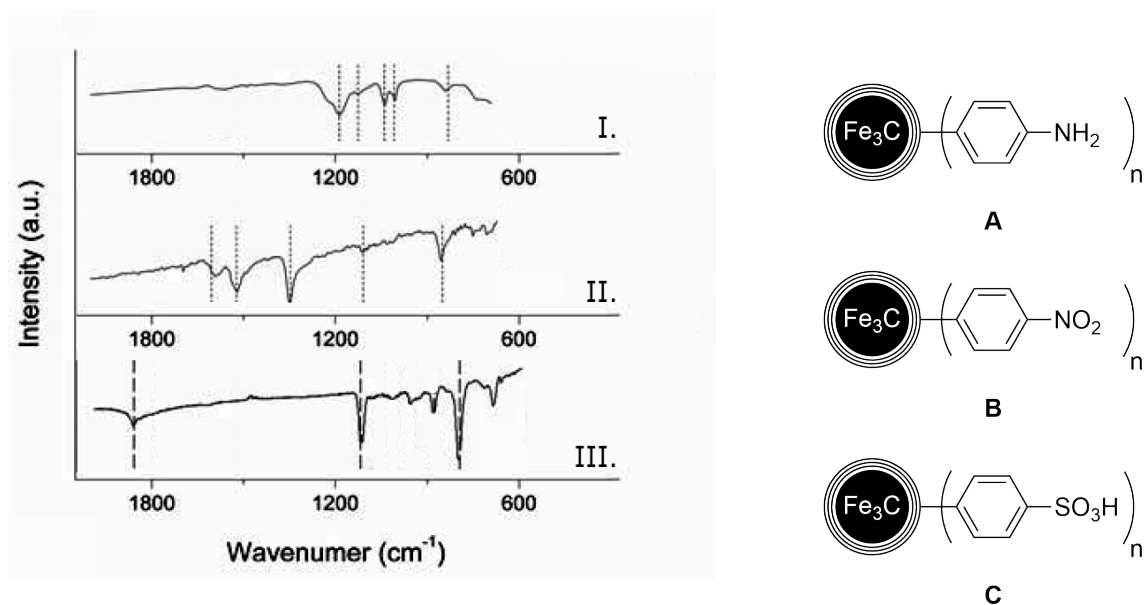

Figure 3: *Left:* Recorded IR spectra of particles A - C. *Right:* Structure of said functionalized particles.
- f) The produced particles were functionalized in three separate reactions to carry amine, nitro or sulfonic acid groups respectively. Unfortunately, the labels of the three vials got mixed up. The IR spectra of all samples are shown below in Fig. 3. Assign structures A – C to spectra I – III.